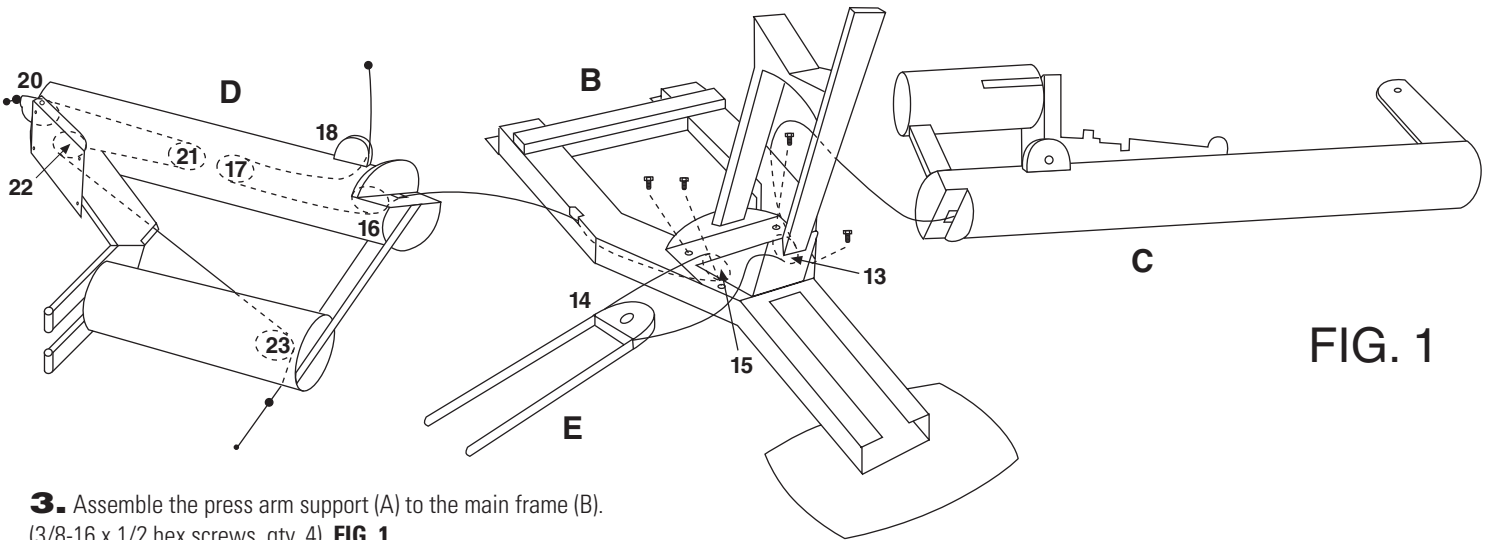

FIG. 1
3. Assemble the press arm support (A) to the main frame (B). (3/8-16 x 1/2 hex screws, qty. 4). **FIG. 1.**
4. In preparation for threading the cable, position the main column (C) on the right of the main frame (B), and the leg/ab station (D) on the left. Lay these parts down as shown in **FIG. 1** to prevent them from falling over. You may tilt the main frame (B) on its left side to simplify cable routing. Now route the long cable from the base of the main column (C) into the opening on the right of the main frame (B) around the nearest pulley #13 and up out of the frame. The cable goes around the press arm pulley #14 such that the bolt head of the press arm pulley (E) is toward the bench, and then back down into the main frame (B) going around the other of the two pulleys #15. The cable goes through the frame and exits out the opening near the leg/ab station (D). The cable enters the base of the leg/ab station (D) through an opening in the bracket and goes under pulley #16 found there. There is a "cable-keeper" at this pulley. It is a small piece of steel about the diameter of a pencil. It is **VERY IMPORTANT** that the cable go between the pulley and this "cable-keeper." Now the cable goes around the lower pulley #17 of the suspended pair of pulleys, front to back. Refer to **FIG. 1** and **Cable Diagram** elsewhere in this manual. **Going around this pulley in the correct direction without the cable twisted is VERY IMPORTANT.** This cable next passes under pulley #18 and exits the column as shown.